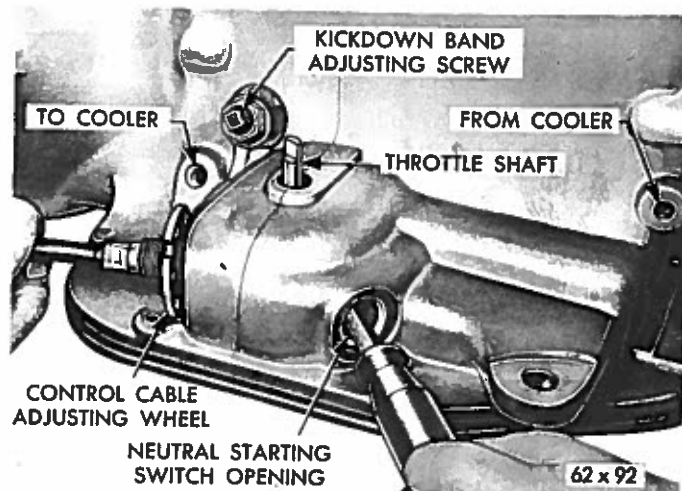

Fig. 11—Removing Gearshift Control Cable
(1) Raise vehicle on hoist and drain approximately two quarts of fluid from transmission.
(2) Depress 1 (low) push button to position cable for removal from transmission.
(3) Disconnect wire from neutral starting switch and remove switch.
(4) Remove push button control cable to transmission adjusting wheel lock screw.
(5) With a screwdriver, inserted through the neutral starter switch opening, gently push against the upper projecting portion of the cable adapter lock-spring and pull outward on cable to remove cable assembly from case (Fig. 11).
(6) To install the cable, have an assistant engage the (R) button and hold it firmly engaged until the cable attachment operation is completed.
(7) Back the adjustment wheel off on the cable housing (counter-clockwise) until two or three threads are showing on the guide behind the wheel.
(8) Lubricate the cable housing with transmission fluid, insert cable in transmission case, push inward on cable making sure lock-spring engages cable. Adjust control cable as outlined in "Maintenance, Adjustments and Tests," Paragraph 13.
(9) Refill transmission with Automatic Transmission Fluid (Type "A" Suffix "A") to proper level. Refer to Paragraph 11.
(1) Raise car on hoist. Have an assistant hold the R (reverse) button firmly depressed.
(2) Remove the push button control cable adjustment wheel lock screw at the left side of transmission (Fig. 11).
(3) Back the adjustment wheel off on the cable guide (turn counter-clockwise) until two or three threads are showing on the guide behind the wheel.
The kickdown band adjusting screw is located on the left side of the transmission case near the throttle lever shaft (Fig. 11).